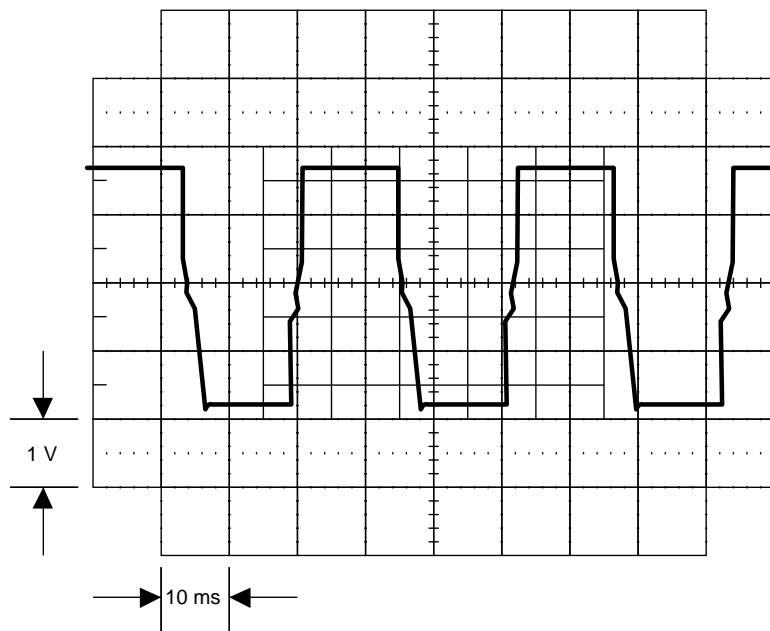

Figure 5-16. Waveform at Pin 13 of U6
1. Check the +8A and -8A power supply for the two-wire comp. circuit. Set the 5700A to 100 Ω , operate, and turn the two-wire comp on. Using a DMM measure the dc voltage at TP8 (common to TP7) and verify it is +8.2V $\pm 5\%$. Next, measure the dc voltage at TP9 (common to TP7) and verify it is -8.2V $\pm 5\%$. If these supply voltages are correct skip to step 2. If a failure is detected, first connect an oscilloscope to pin 16 of U6 with the scope common connected to pin 13 of U6. Set the oscilloscope to 5V/div at 10 us/div and verify it displays a waveform similar the Figure 5-16. If a failure is detected, check U6, Q5, Q6, Control line PB7, and associated components. If this signal is correct then check T1, CR1, CR2, CR9, CR10, VR1, VR2, and associated components.